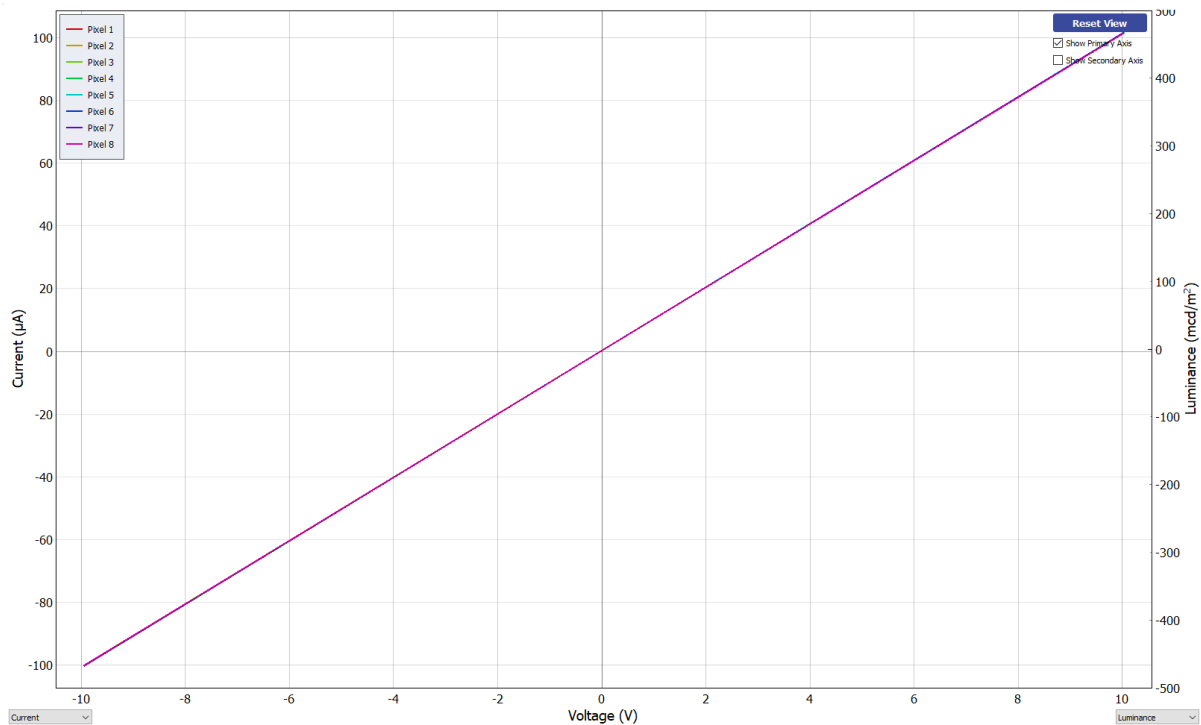

Figure 10.3. Example measurement of resistor test device using the 200 µA current range.
6. The system should measure straight line resistor responses from -100  $\mu$ A to 100  $\mu$ A (or -20  $\mu$ A to 20  $\mu$ A for the 20  $\mu$ A current range) as shown in **Figure 10.3**.